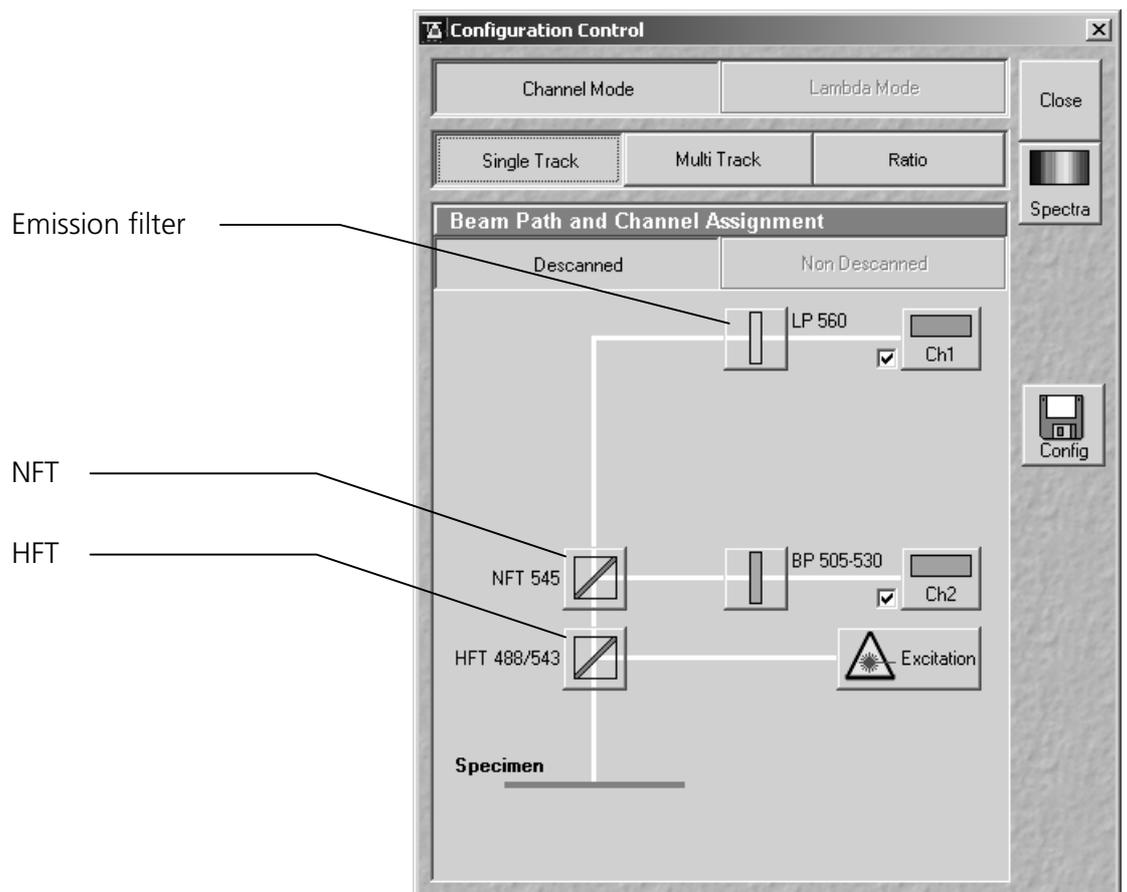

Fig. 5-43 Configuration Control window
The assignment of the numbered emission filters (1-2), NFT secondary dichroic beam splitters and HFT main dichroic beam splitters in the **Beam Path and Channel Assignment** panel is shown in the **Configuration Control** window (Fig. 5-43). The numbers of the emission filters correspond to those of the channels lying behind (PMT photomultipliers).
- On the **Beam Path and Channel Assignment** panel, click on the HFT main dichroic beam splitters  (see Fig. 5-43).